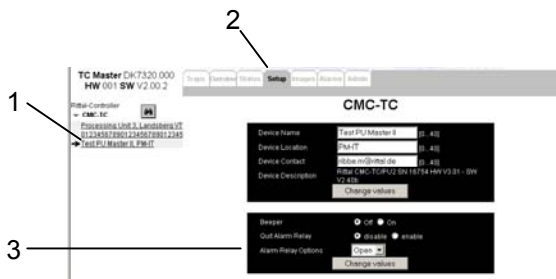

Fig. 37 Setup overview
- Click in the left-hand frame of the browser window (Figure 37, item 1) on the link of the Processing Unit (this is then marked with an arrow).